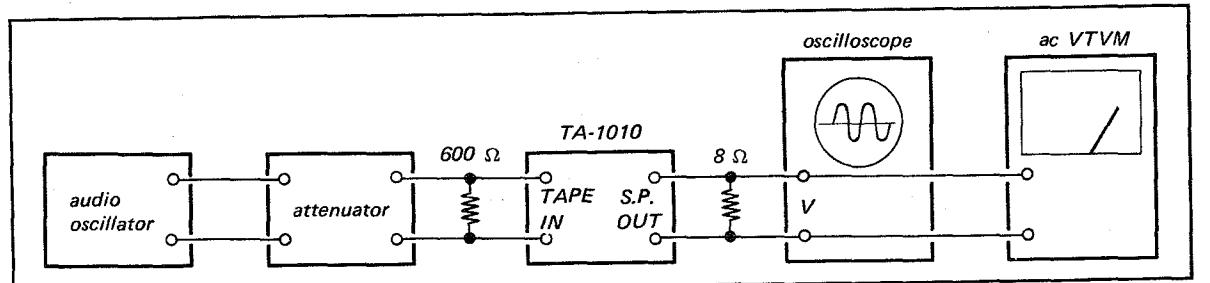

Fig. 5-2 Ac balance adjustment test setup
1. With the equipment connected as shown in Fig. 5-2, set the POWER switch to the ON position and feed a 1-kHz, 0.775-V (0 dBm) signal to the TAPE input terminal through the attenuator.